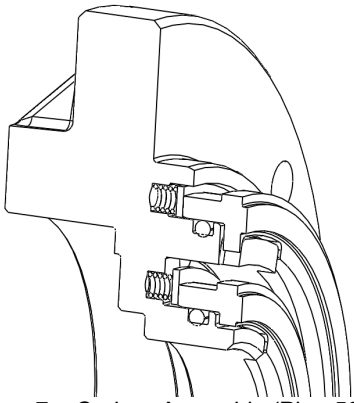

Figure 7 – Carbon Assembly (Plan 52)
2. Install backer rings (153D and 153G) into cartridge (153R). Bottom of backer ring should rest on springs. See Figure 7.
3. Apply a small amount of grease to o-rings (153C and 153H). Install o-rings into cartridge (153R). See Figure 7.
4. Align 3 tang features of carbons (153J and 153B) with 3 tang features of cartridge (153R). Gently press carbon into cartridge assembly taking care to not damage raised sealing face. See Figure 7.